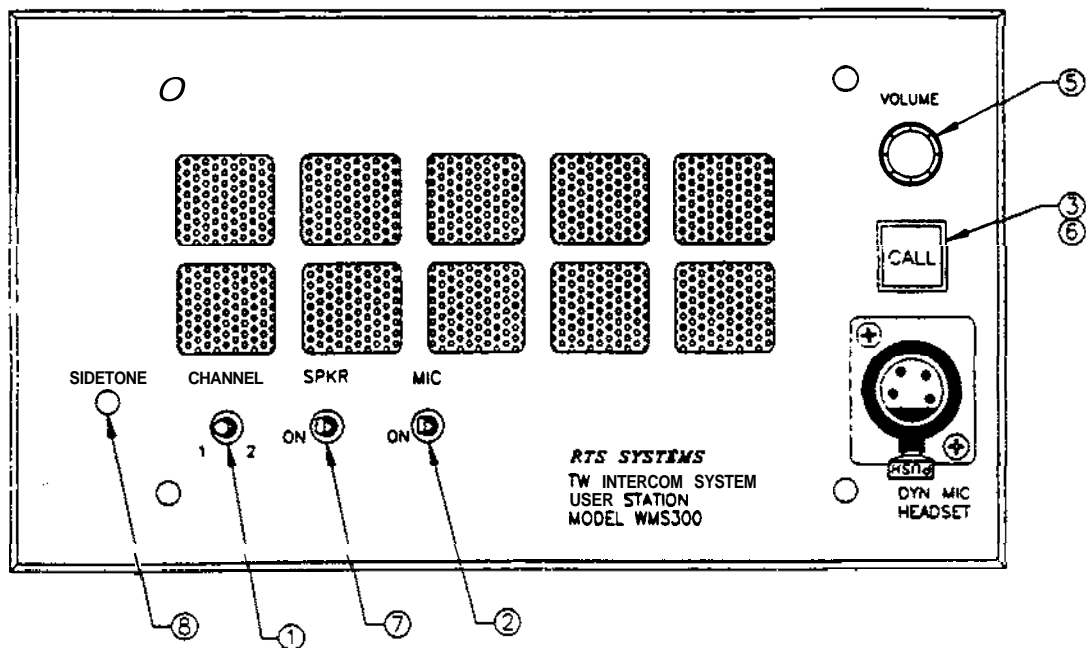

Figure 3-1
3.1 Operating Controls(See Figure 3-1)
Table 3-1 lists the Model WMS300 operating controls, with reference numbers corresponding to Figure 3-1.
3.1 Operating Controls (See Figure 3-1) (continued)